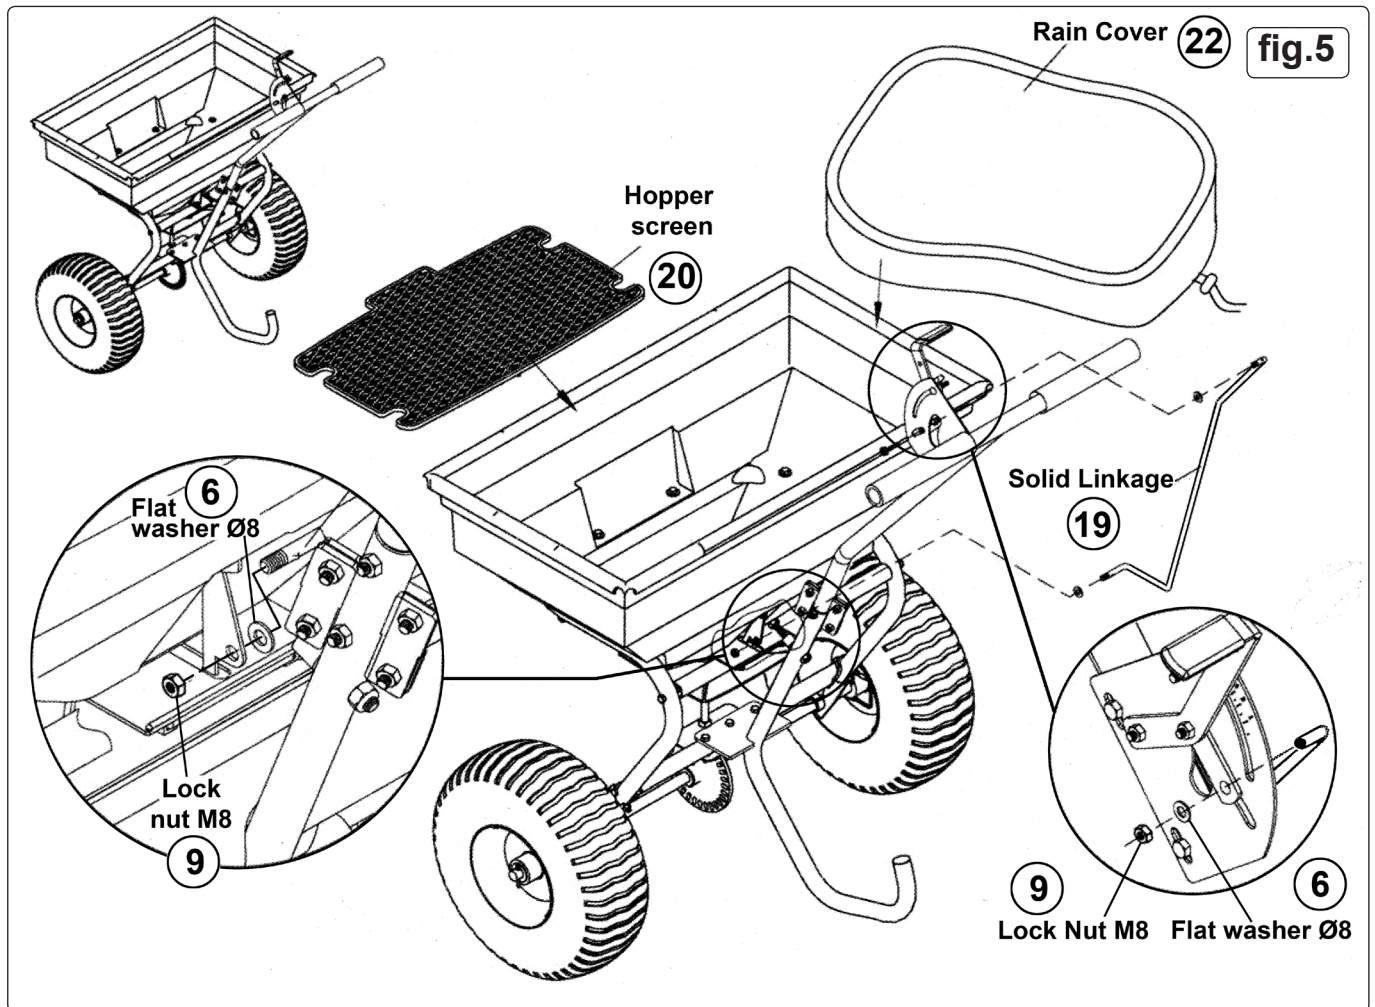

fig.5
4.5 CONNECTING THE FLOW CONTROL LINKAGE. (refer to fig.5)